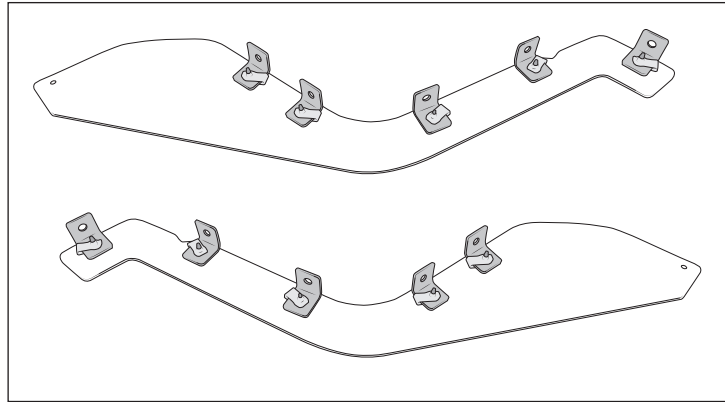

Figure 13
- A. Install L brackets and u-nuts to supplied closeout panels (fig. 13).